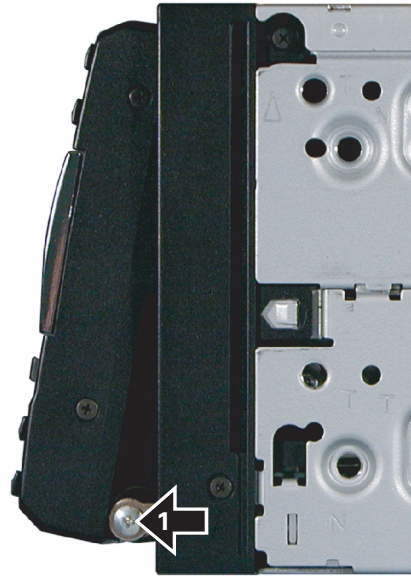

Fig.2
- A **1** Remove the two screws. (Fig.2)